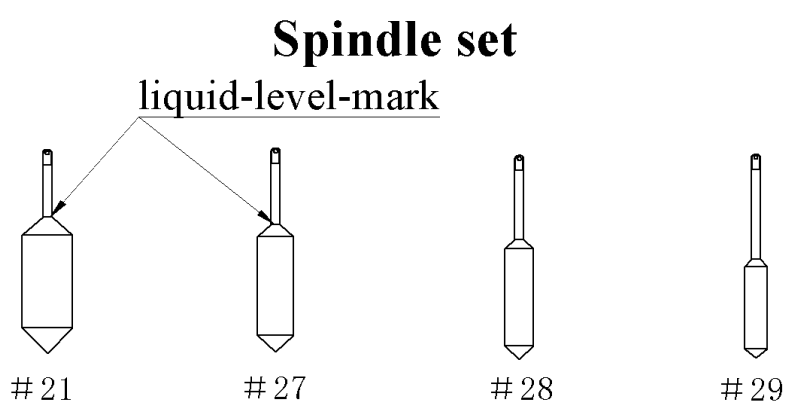

Figure 3
- 4.5.2.8 Use special forceps will pipe from heating furnace to remove and wash, pour 10 ~ 20mL after the sample, by turning the revolving, the spindle immersed in liquid samples and to the spindle liquid-level-mark, as shown in Figure 3, and then covered with insulation cover.